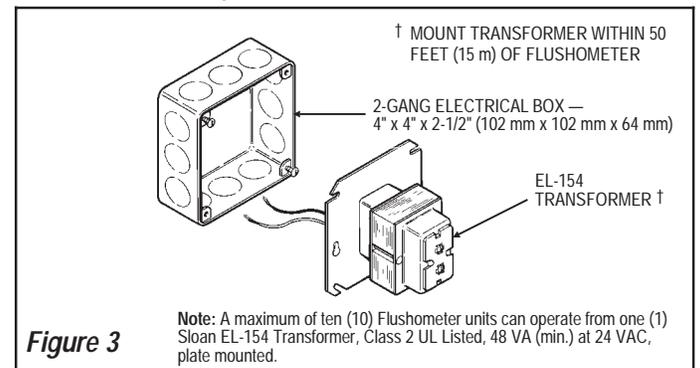

Figure 3
Step 1 — Install Transformer (Figure 3)
Install Transformer (EL-154) on a 2-Gang Electrical Box, 4" x 4" x 2-1/2" (102 mm x 102 mm x 64 mm) in a convenient location as shown in Figure 3.